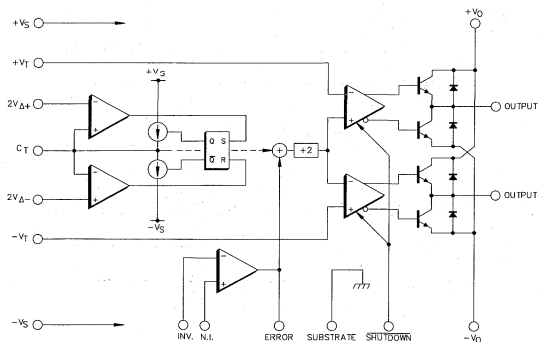

Figure 1. SG1731 Block Diagram
**Fig 1** shows the SG1731's structure. The device contains a triangle-waveform oscillator whose frequency is determined by
**Figure 1.** A DC-Motor Pulse-Width-Modulator IC. The SG1731 features 50Hz to 350kHz oscillator range, adjustable deadband operation, a high-slew-rate error amplifier, a Shutdown input providing floating outputs, and dual 100mA source/sink output drivers capable of operating from supplies to +32V.